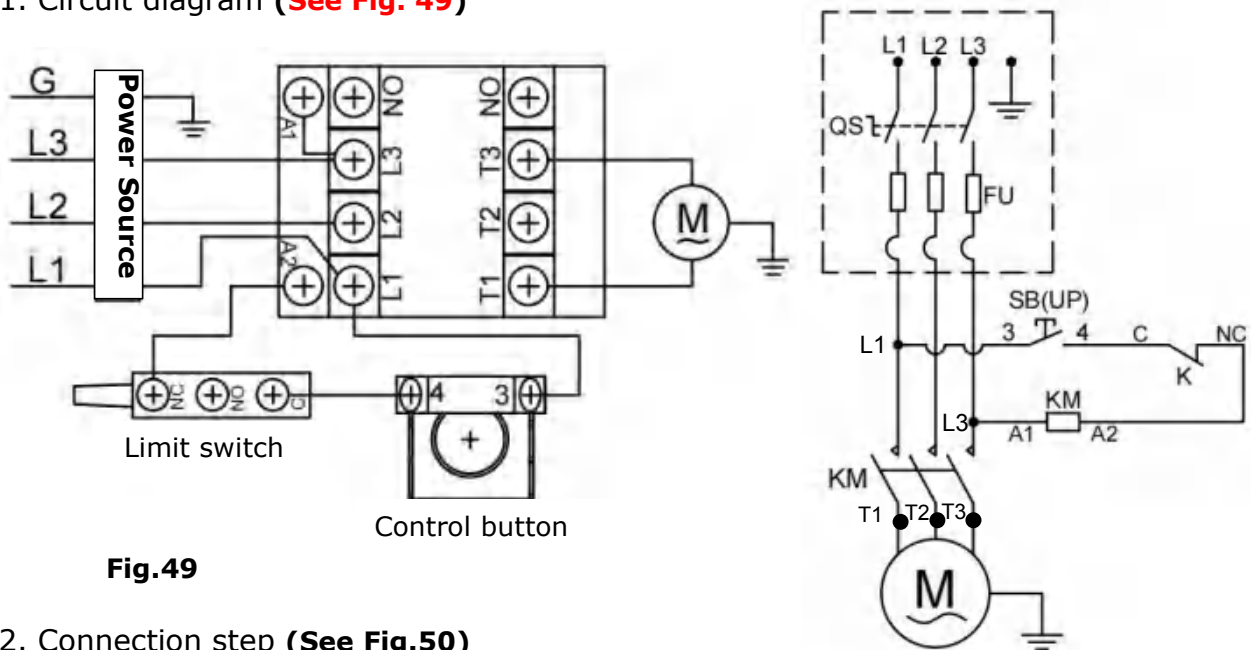

Fig.49
1. Circuit diagram (See Fig. 49)